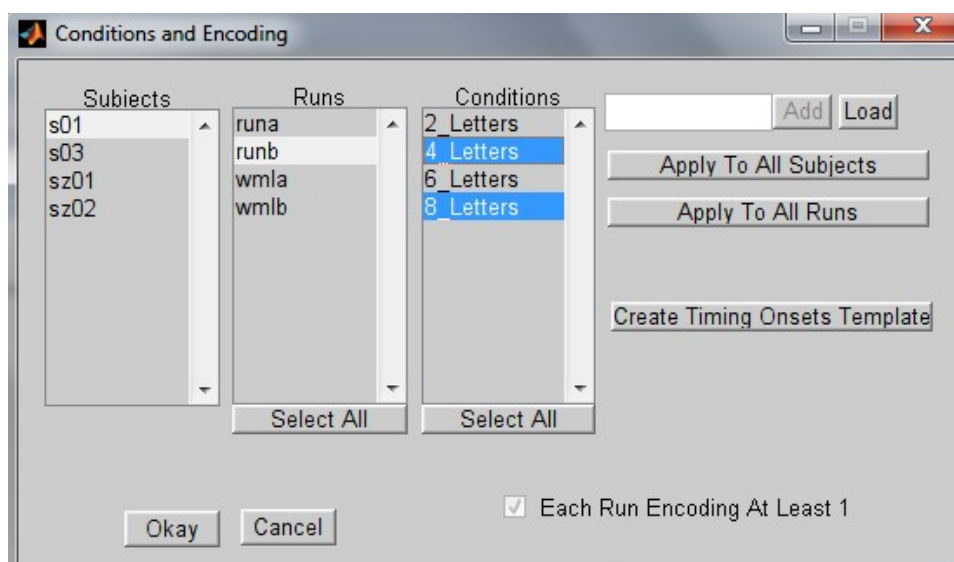

Figure 21: Conditions and Encoding window, selecting only some conditions
*** If there is a subject that does not encode every condition in every run, you can edit which subjects/runs/conditions to be applied by highlighting only those events you want to be included. Figure 21 below shows only 2 conditions (4_letters and 8_letters) being selected for s01, runb. This will depend on your dataset.